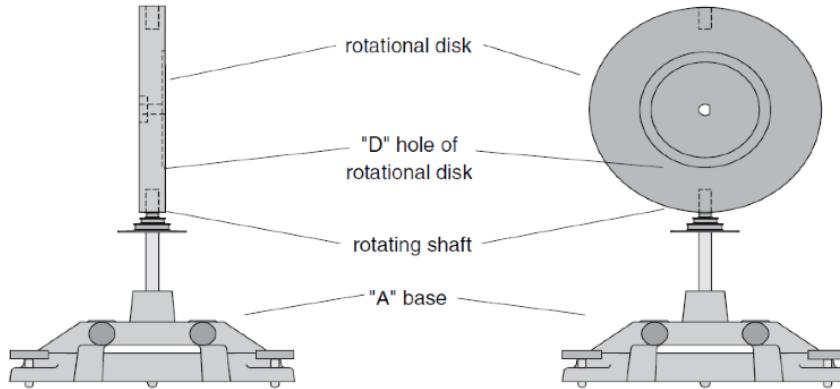

Figure 6: The setup for Section 3.3 steps 7 and 8.
7. Remove the disk from the center shaft and rotate it up on its side. Mount the disk vertically by inserting the shaft in one of the two “D”-shaped holes on the edge of the disk. See Figure 6.